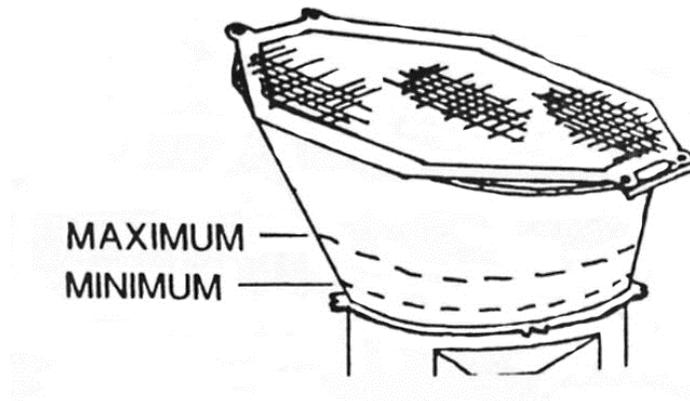

FIGURE 13
1. Load the gun approximately half full just above the hopper cone flange level, Figure 13.
1. Keep the material at the level shown in Figure 13.